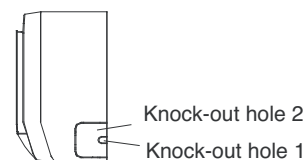

Fig. 20
- (1) When routing the tubing and wiring from the left or right side of the indoor unit, cut out the knock-out hole from the chassis as necessary. (Fig. 20)